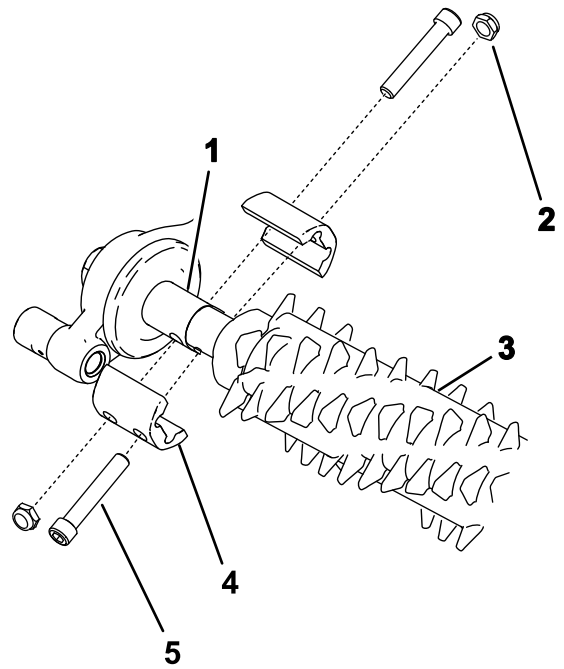

Figure 17
3. Secure the groomer to the machine as shown in Figure 17 and snug the bolts.
2. Line up the grooming reel with the groomer drive box and idler assembly (Figure 17).